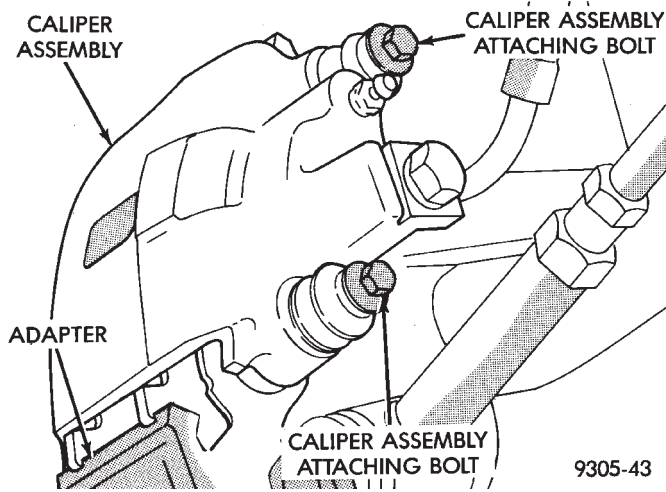

Fig. 43 Caliper Guide Pin Bolts
(2) Remove rear wheel and tire assemblies from vehicle.
(3) Remove the 2 caliper assembly to adapter guide pin bolts (Fig. 43).